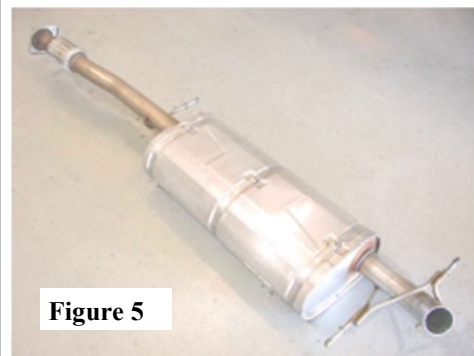

Figure 5
1. Install the **Front Pipe Assembly** to vehicle using the original hardware making sure to install the hanger into the rubber isolator. **Do not tighten the hardware.** (See Figs. 5 & 6)